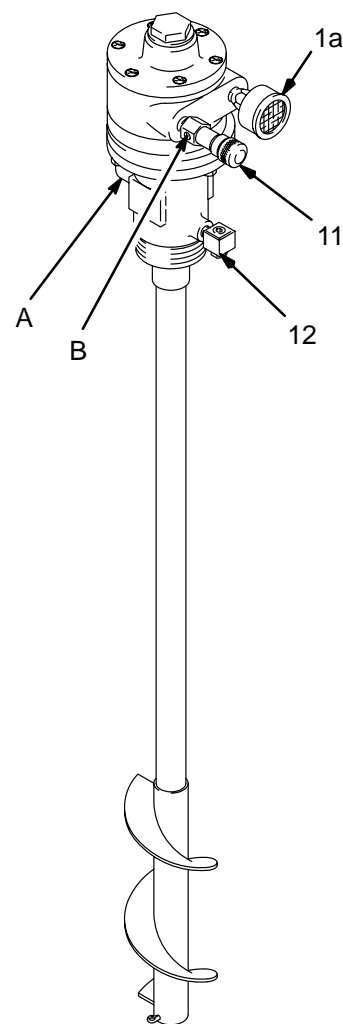

Fig 2
3. Position the air motor so the air line can easily be attached to the needle valve's 1/8 npt inlet (B), without obstructing any other system components. See Fig 2.
5. If using the agitator suction feature, connect a fluid line to the 3/4–14 npt(f) agitator fluid outlet (A).
NOTE: The agitator rotation may be reversed by switching the muffler (1a) and needle valve (11). Refer to Fig 2.
Install a fitting and siphon tube (not provided) into the agitator's 3/4 npt(f) fluid outlet (A). Refer to Fig 2. With the siphon tube routed to a separate container, pump the fluid out through the agitator outlet port to check viscosity.
The air check valve (12) allows make-up air to enter the closed drum as fluid is drawn out through the agitator outlet port. Refer to Fig 2. The air check valve should be inspected and cleaned periodically.
1. Remove the needle valve and fill the air inlet cavity with kerosene. Screw the needle valve back in. See Fig 2.